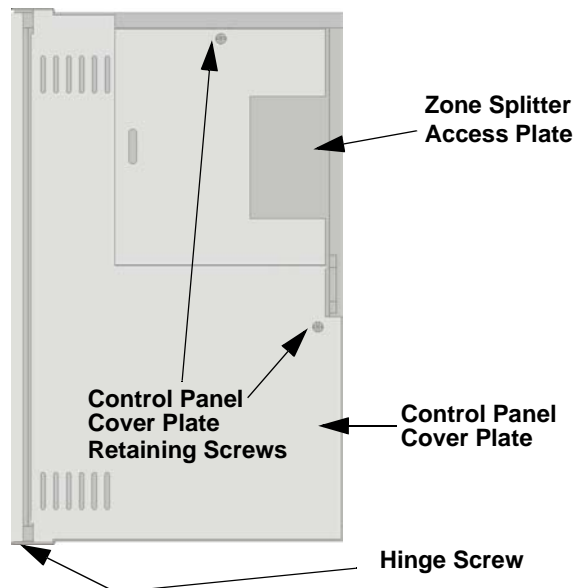

Figure 7-1 View of Cabinet With Cover Plate in Place
2. Remove the two cover plate retaining screws, then open the control panel cover plate. See Figure 7-1.